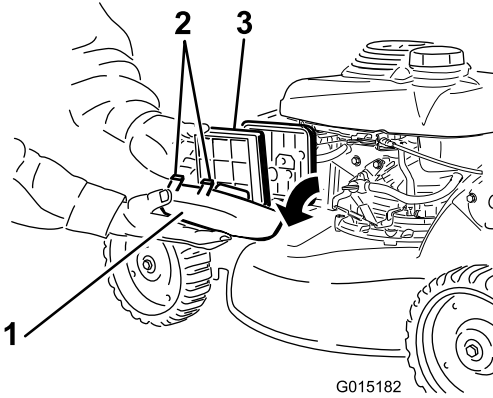

Figure 35
1. Press down on the latch tabs on top of the air cleaner cover and remove the cover (Figure 35).
2. Remove the air filter (Figure 35).